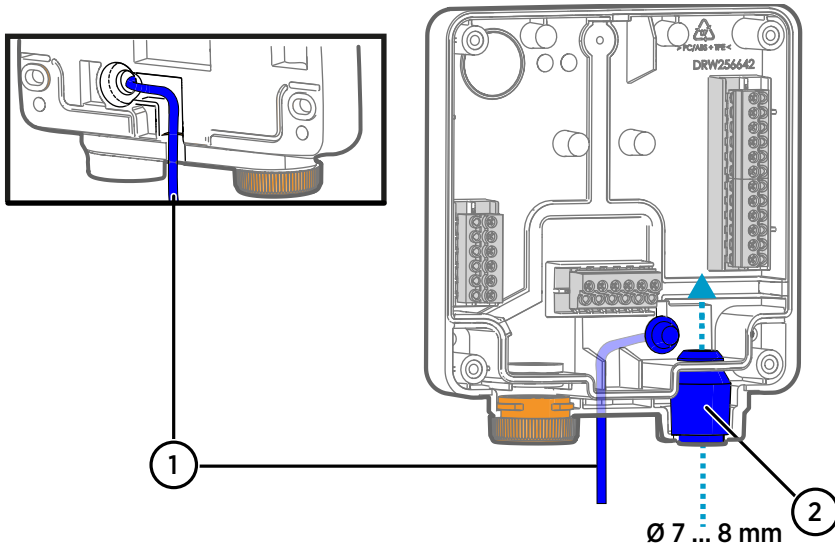

Figure 4 Indigo200 wiring options
- c. Nest the cable inside the groove on the back of the transmitter as shown in Figure 4 \(page 12\), and attach strain relief as needed.